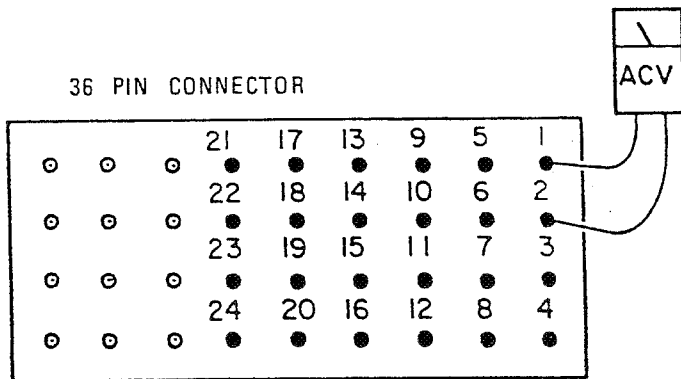

Figure 5-9. Back View Connector A (Model 6001)
4. Use an AC voltmeter capable of measuring 120 VAC and measure the voltage between the indicated connector pins located in Connector A. See figure 5-9.